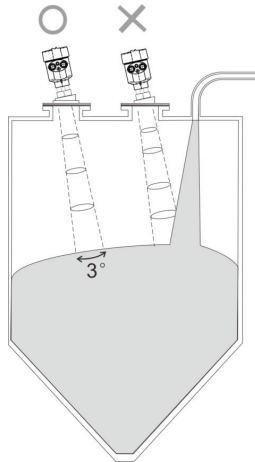

Fig 8 Example for avoiding false echoes
- Avoid the contact between antenna beam and feeding flow, as shown in Fig. 8